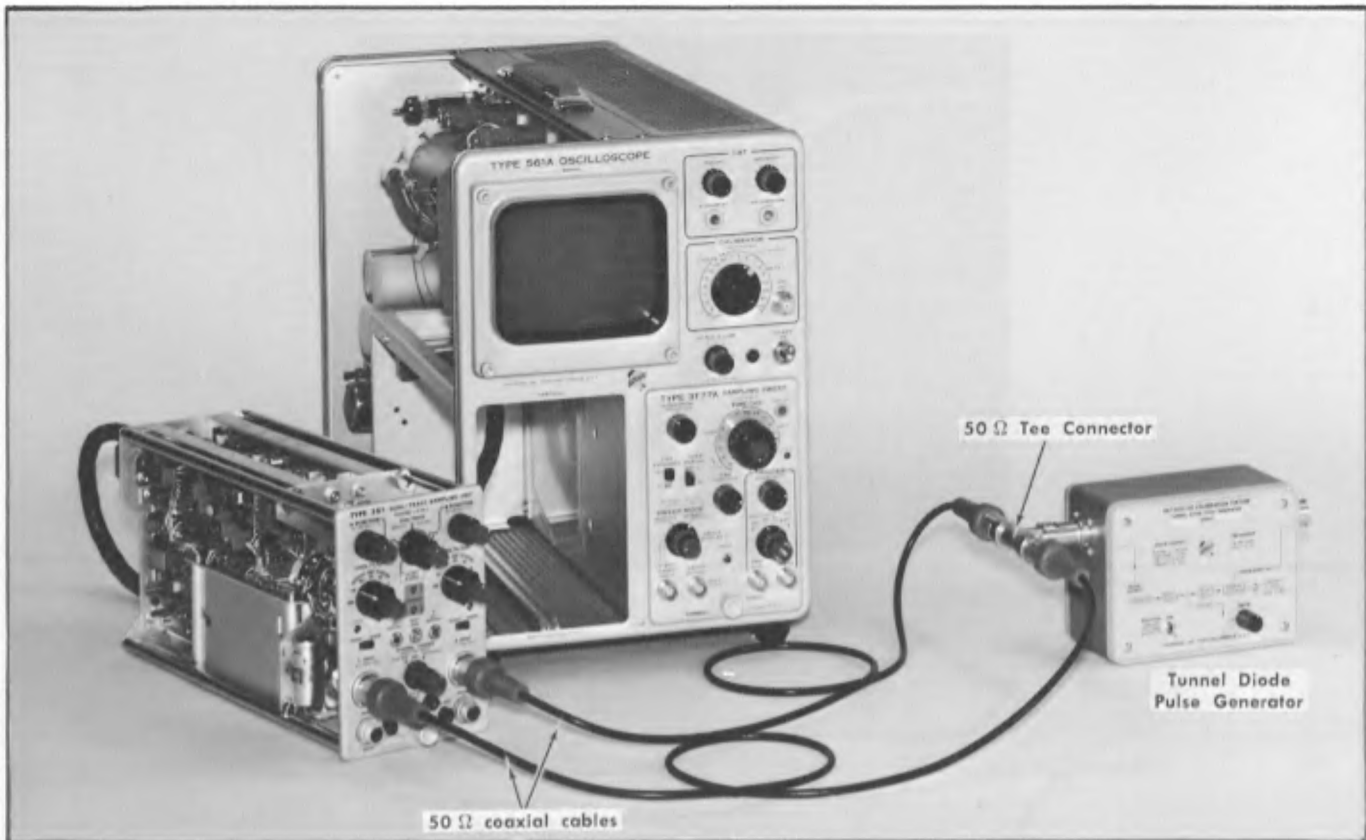

Fig. 8-32. Equipment and connections for Step 27.
a. Make the connections and control settings listed following Fig. 8-32. Adjust the Timing Unit Trigger Sensitivity control for a stable display. Adjust the Time position control for a centered display.